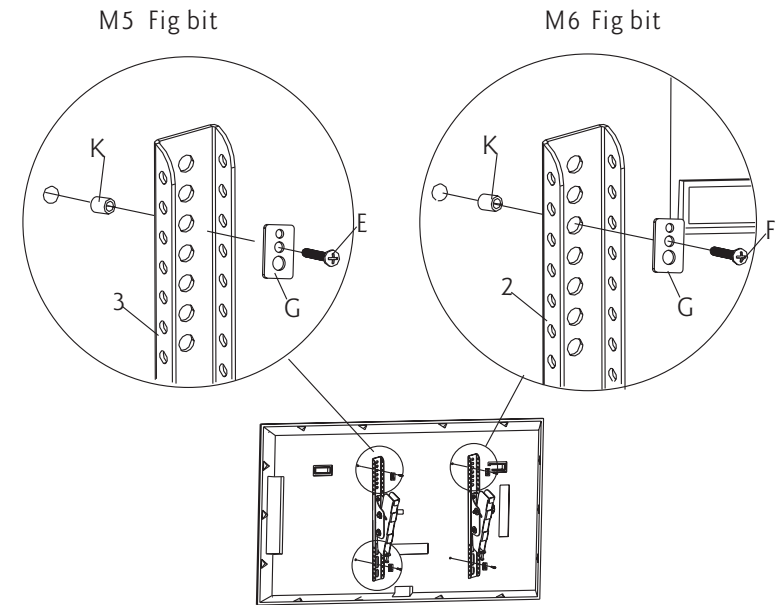

Fig 1b
2. Some displays have curved backs with recessed mounting lands (Fig. a). It will require the use of spacer. For this display, install a spacer (K) between display and the bracket. As shown in Fig 1b.